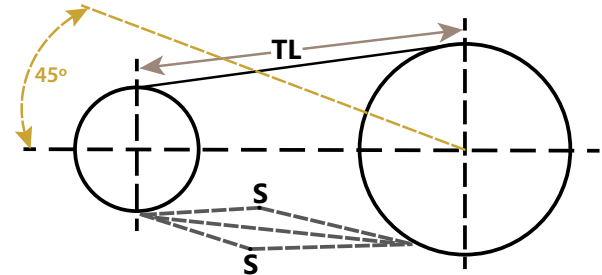

Figure 5-49. Chain Slack Adjustment for Proper Tension
The auger and conveyor chains need periodic adjustment. Generally, the slack of a roller chain should be on the lower side. **(Figure 5-49)** Adequate slack (S) is about four (4) percent of the span for normal drives, but the slack should be about two (2) percent of the span for the auger chains:
- Center distance between two shafts is greater than three (3) feet.